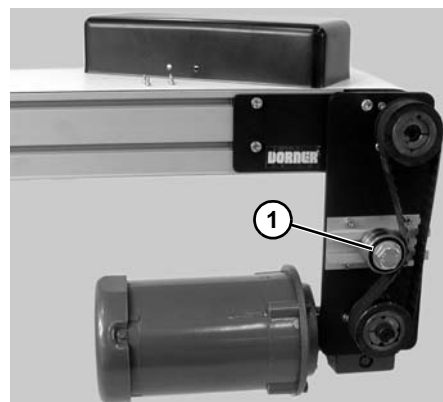

Figure 80
- c. Loosen tensioner (**Figure 80, item 1**).